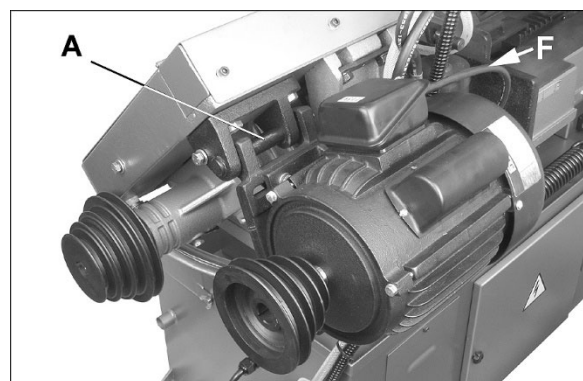

Figure 5-2: motor installation
2. Remove nut and washer from motor support shaft, and slide out support shaft (A, Figure 5-2).
- Insert motor cable (see F, Figure 5-2) through strain relief and connect the leads inside the box. Make sure the grounding wire is properly connected.